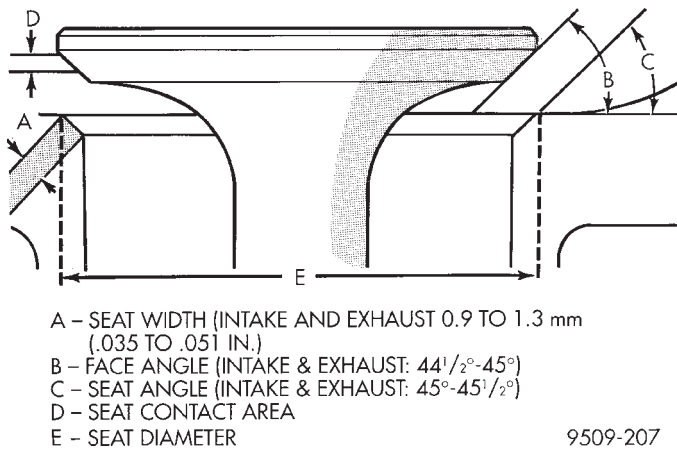

Fig. 122 Valve Seat Refacing
(6) Valve seats which are worn or burned can be reworked, provided that correct angle and seat width are maintained. The intake valve seat must be serviced when the valve seat width is 2.0 mm (0.079 in.) or greater. The exhaust valve seat must be serviced when the valve seat width is 2.5 mm (0.098 in.) or greater. Otherwise the cylinder head must be replaced.
(7) When seat is properly positioned the width of intake and exhaust seats should be 0.75–1.25 mm (0.030–0.049 in.) (Fig. 122).